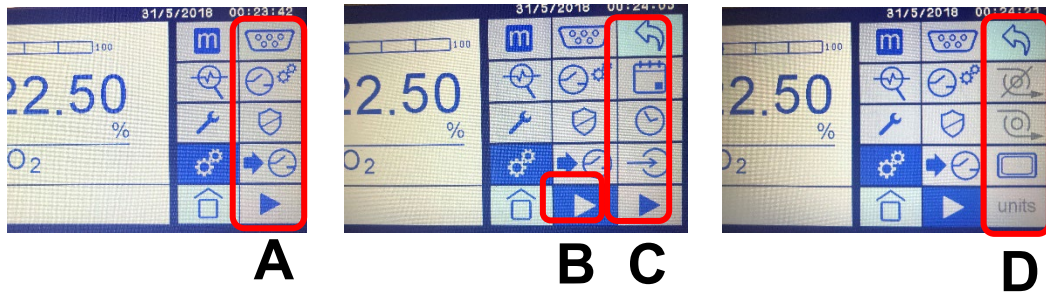

Figure 4-5: The User Interface Menu screen with the Settings branch activated
Figure 4-5 shows a Step Series of Screens that were launched when the Settings Main Menu icon  was touched:
- The first series of functional icons that belong to the Settings section are displayed in the column of icons to the right of the Main Menu icons (Figure 4-5 A).
- To display the next set of functions touch  which brings up the second set of Setting functions (Figure 4-5 C) to the right of the first set (Figure 4-5 A). Note that  is activated as the background color is now blue (Figure 4-5 B).
- To get the third and final set of functions touch  at the bottom of the list of the last column (Figure 4-5 C) and the third set of icons will replace the second set in the final column position (Figure 4-5 D).
- To return the second set of features touch the Return icon  at the top of the last column and the middle screen in Figure 4-5 will be returned.